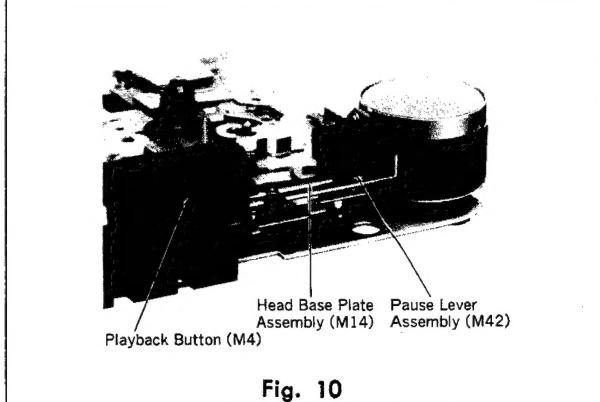

Fig. 10
- * Be sure to mount the front panel assembly with the playback button (M4) pressed so that the head base plate assembly (M14) is prevented from running on the pause lever assembly (M42) (shown in fig. 10).